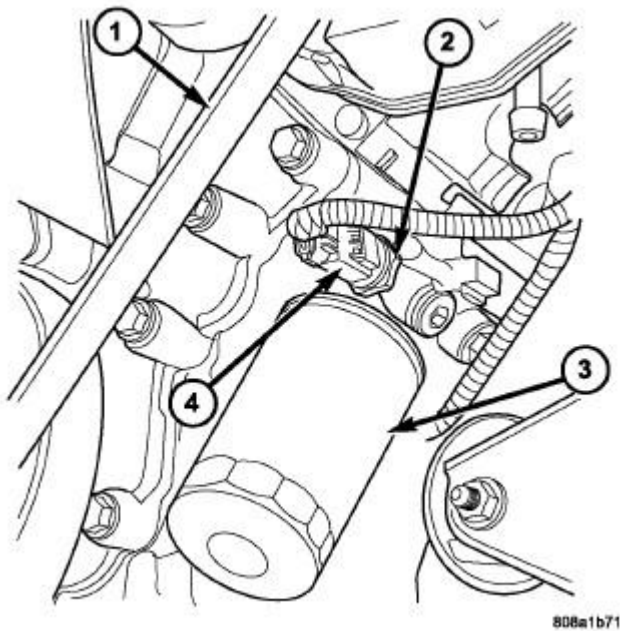

Fig. 153: Belt, Oil Pressure Sensor, Oil Filter & Connector
1. Remove oil pressure sending unit (2) and install gauge assembly (special tool #C-3292A, Gauge, Pressure). Refer to **Fig. 153**.